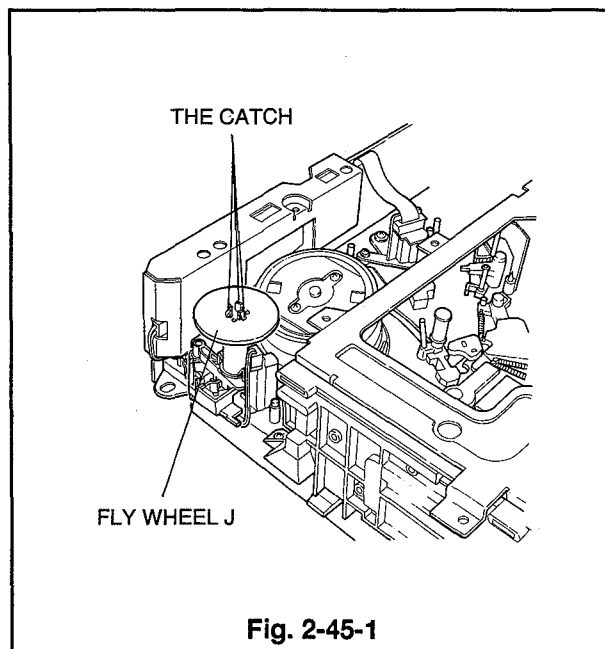

Fig. 2-45-1
- ⑤ Install the FLY WHEEL J on the ASSY IMPEDANCE ROLLER so that the side whose hole entrance is cut out diagonally looks up.
- ⑥ Make sure that three catches are tightly hooked on the FLY WHEEL. If they are not, hook them tightly with the tweezers. [Fig. 2-45-1]